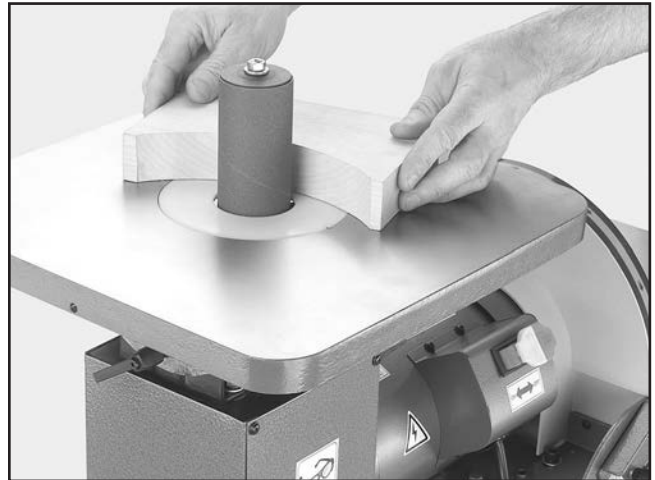

Figure 17. Spindle sanding.
5. Turn the power switch *ON* to start the spindle sander and begin sanding as shown in **Figure 17**. **DO NOT FORCE THE WORKPIECE AGAINST THE SANDING SLEEVE.**